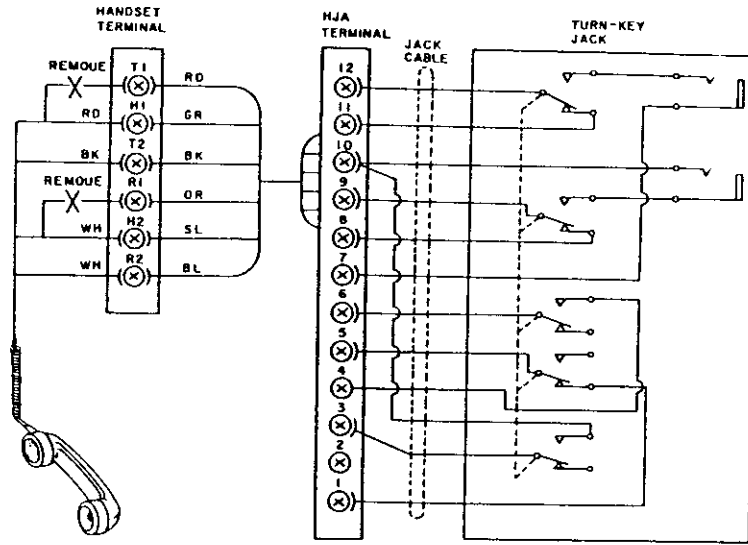
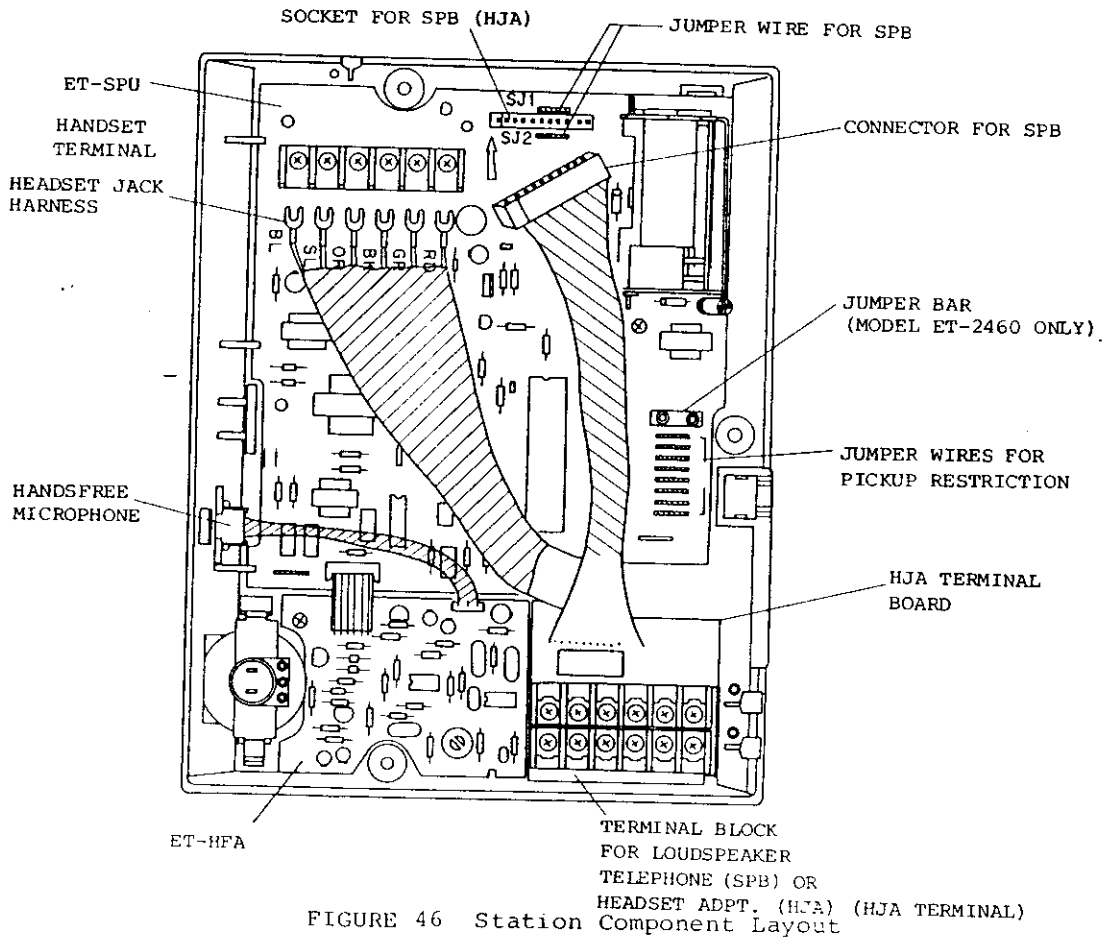

FIGURE 45 HEADSET JACK (HJB) Installation
FIGURE 46 Station Component Layout
FIGURE 46 illustrates the mounting of the HJA Terminal Board on the station lower case as well as the HJA Connector and Handset Terminal wiring. The HJA mounts on the station base plate held in place by one screw. To install the HJA in the station:
- (1) Attach the HJA Connector to the SPC socket on the station circuit card as illustrated in FIGURE 46.
- (2) Cut the SJ2 strap on the station circuit card. Strap SJ2 should only be cut as long as a jackset is physically connected to the HJA Terminal Board.
- (3) Connect the six wires to the Handset Terminal as illustrated in FIGURE 45.
- (4) Using a file or a drill bit, remove the cutout indication on the station base for the headset jack cable.
- (5) Connect the headset jack cable to the HJA Terminal Board as illustrated in FIGURE 45. Terminations on the HJA Terminal Board are in accordance with the individual jackset function color coding. FIGURE 45 illustrates the required switching (contacts) internal to the jackset for proper operation.
To install the loudspeaker telephone adapter, refer to FIGURE 46 for mounting the SPB terminal board in the E-KEY station. FIGURE 47 illustrates use of the Companion II unit, and FIGURE 48 illustrates the PC-4A installation. To install the SPB:
- (1) Remove the 6-pin modular drop cord and open the E-KEY station by loosening the three screws on the station base.
- (2) After separating the housing, remove the SPKR leads and keyboard connector from the station circuit card (SPU).
- (3) Mount the SPB terminal board on the SPU as illustrated in FIGURE 46.
- (4) Insert the SPB connector into the SPB socket on the SPU station circuit card.
- (5) Cut the SJ1 and SJ2 jumper wires on the SPU station circuit card as illustrated in FIGURE 46.
- (6) Two cutout indications are provided on the E-KEY telephone case for the speaker telephone cables. Use a drill bit or round file to remove the cutouts.